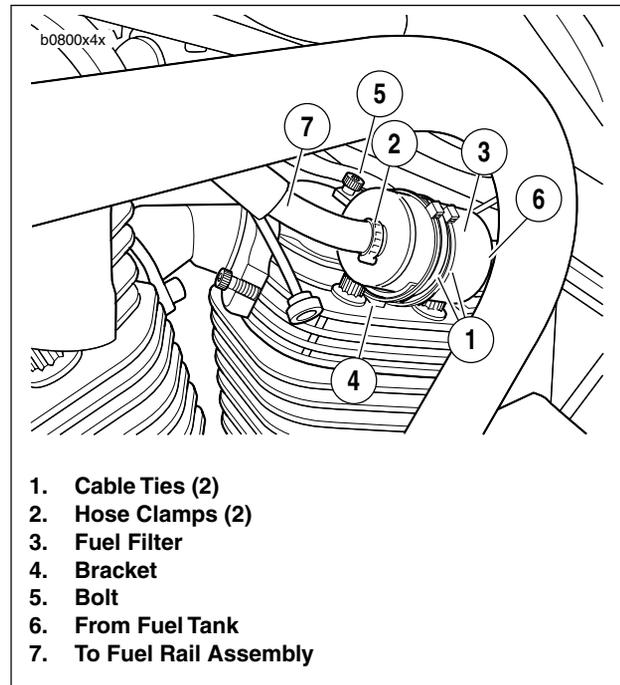

Figure 4-94. In-line Fuel Filter
See Figure 4-94. There is a replaceable inline fuel filter between the fuel pump outlet at the fuel tank and the fuel rail assembly.
2. See Figure 4-94. Cut two cable ties that secure fuel filter to bracket.
4. See Figure 4-94. Remove hose clamps from both sides to detach filter.